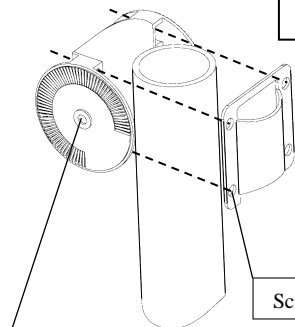

Fig. 1 POLE HEAD MOUNTING
- 2) When mounting on a bracket, change the connecting plate position and rotate the device as shown in Figures 1 and 2.